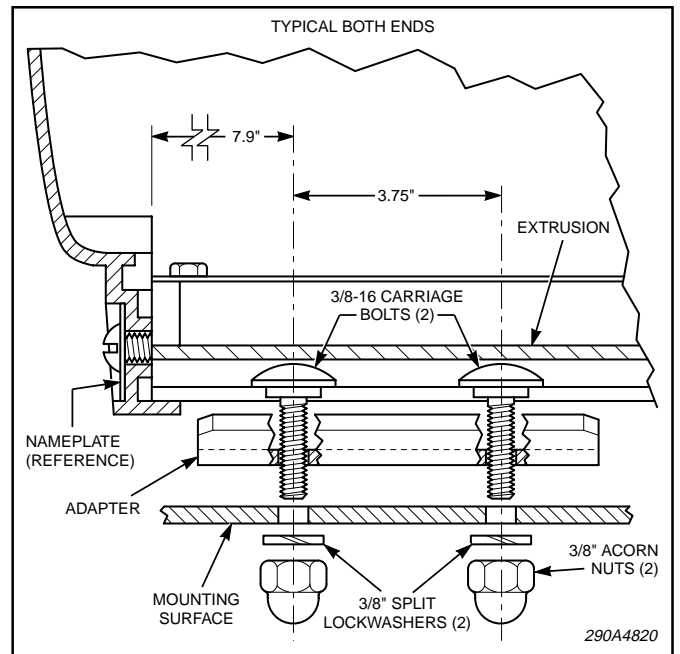

Figure 2.
5. Secure the light assembly to the flat mounting brackets using the adapters (one on each side of the light assembly), 3/8-16 acorn nuts and 3/8" split lockwashers as shown in figure 2.